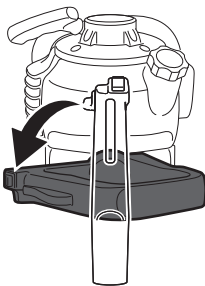

Fig. 4, left position
- > Turn the rear handle (16) in desired direction to the end. Make sure the handle engages in position (Figs. 4 – 6).